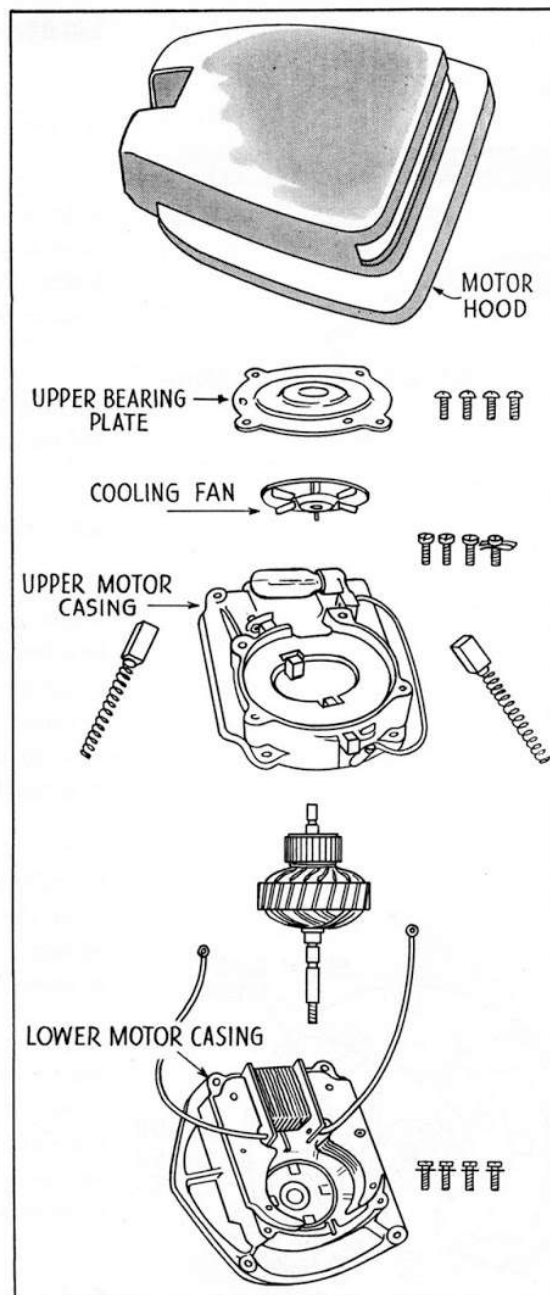

FIG. 39
3. Figure 39 illustrates a motor having a two-piece plastic motor casing in which the lower bearing is mounted in the lower motor casing.